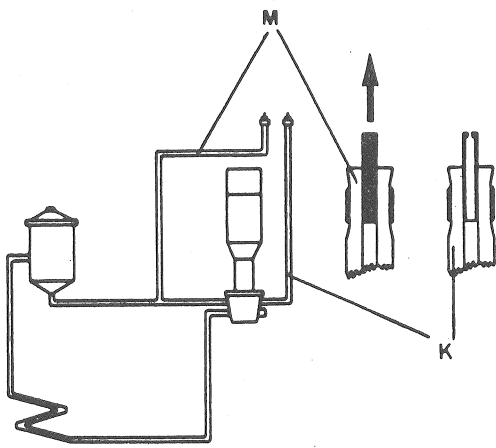

Fig 23
1. Remove the metal plug from the free end of the rubber pipe (M) but leave the diaphragm plug on rubber pipe (K) (fig. 23).